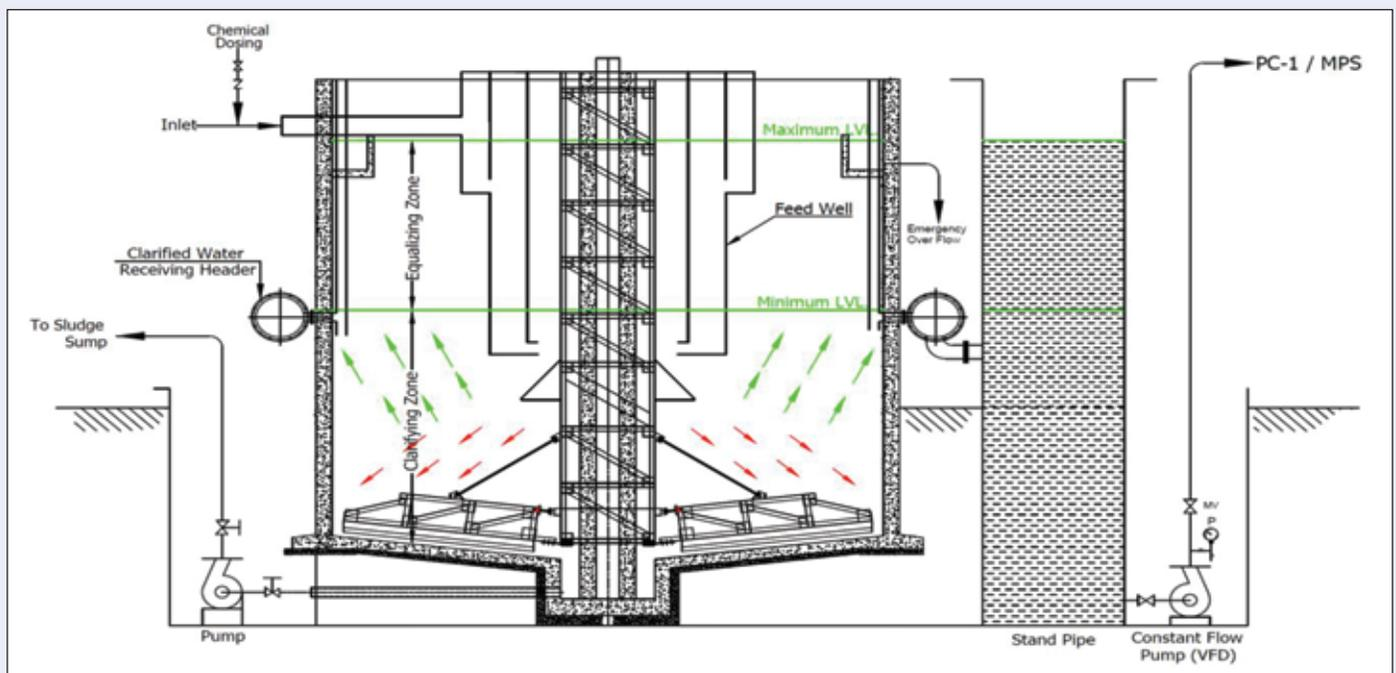

Fig. No.-1
- The Equaflow Clarifier is divided into two parts i.e. clarifying zone and equalizing zone as shown in Fig. No.-1.